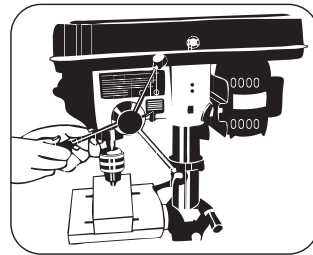

FIGURE 8.6
- Screw the feed handles in the holes on the pinion shaft **21** (Figure 8.6)